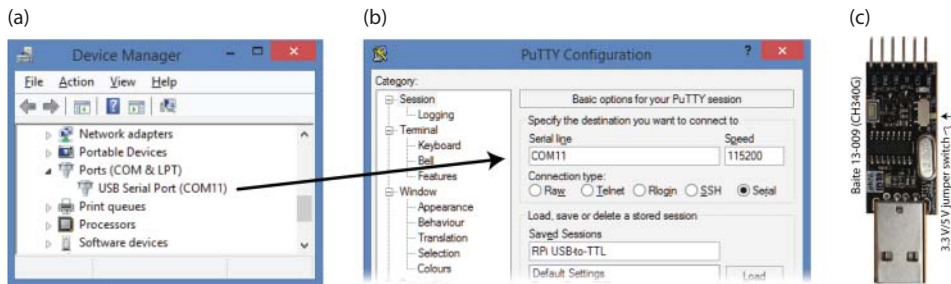

Figure 2-3: (a) Windows Device Manager device identification; (b) a PuTTY serial connection configuration; and (c) a low-cost USB-to-TTL adapter
- **Port number:** To find this, open the Windows Device Manager (or equivalent) and search under the Ports section. Figure 2-3(a) captures an example Device Manager, where the device is listed as COM11 in my case. This differs on different machines.
Save the configuration with a session name (e.g., RPi USB-to-TTL), as illustrated in Figure 2-3(b), so that it is available each time you want to connect. Click Open, and then it is important that you *press Enter when the window displays*. When connecting to Raspbian, you should see the following output:
NOTE Low-cost alternatives to the USB-to-TTL 3.3V cable, such as the USB device shown in Figure 2-3(c), are available for as little as \$1, but generally come without any type of protective casing. Before you purchase the device, however, be sure that it supports 3.3 V TTL logic levels. The one shown in Figure 2-3(c) has a switch that facilitates both 3.3 V and 5 V logic levels. These devices are used in Chapter 9 to extend the number of UART devices that are available on the RPi.